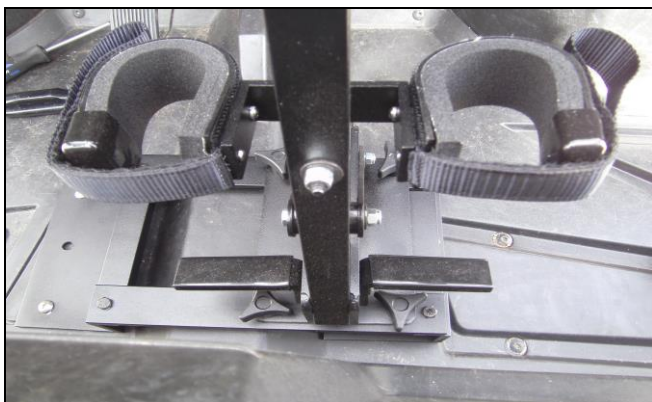

FIG. 5
STEP 4- Position QD800 assembly back over holes and replace screws. Tighten completely. **SEE FIG. 5**